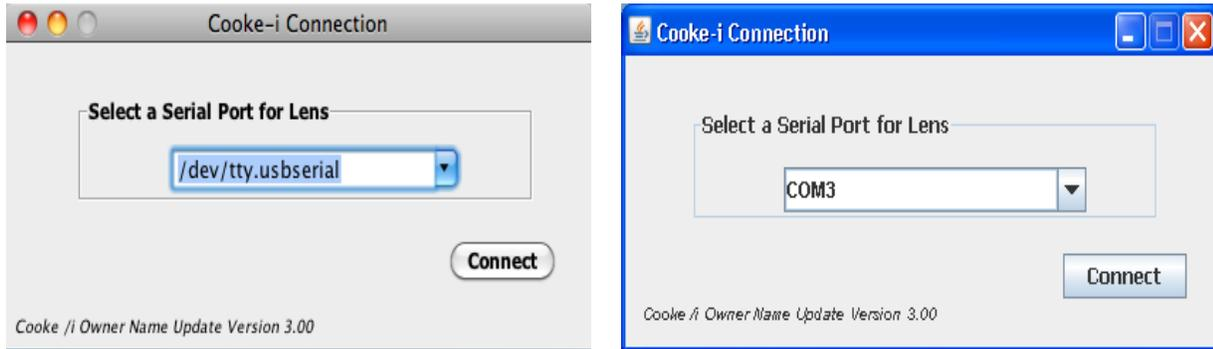

Figure 1 Select Serial Port on MAC and on Windows
- For MAC OS X: Double click *Cooke Owner Update*, the screen as shown in Figure1 appears. It lists all of the available serial ports on the machine. Select one which the lens is connected to.